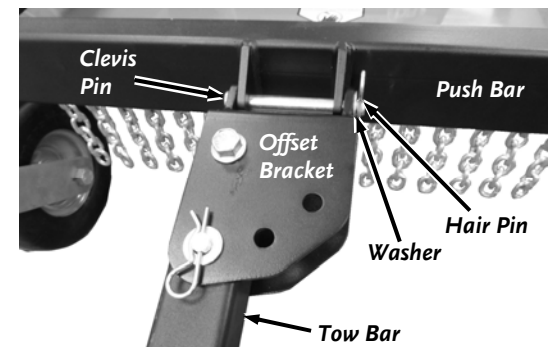

Figure 25
4. Support the Tow Bar as you remove the Hair Pin, Washer and Clevis Pin that secures the Offset Bracket to the Push Bar (**Figure 25**).